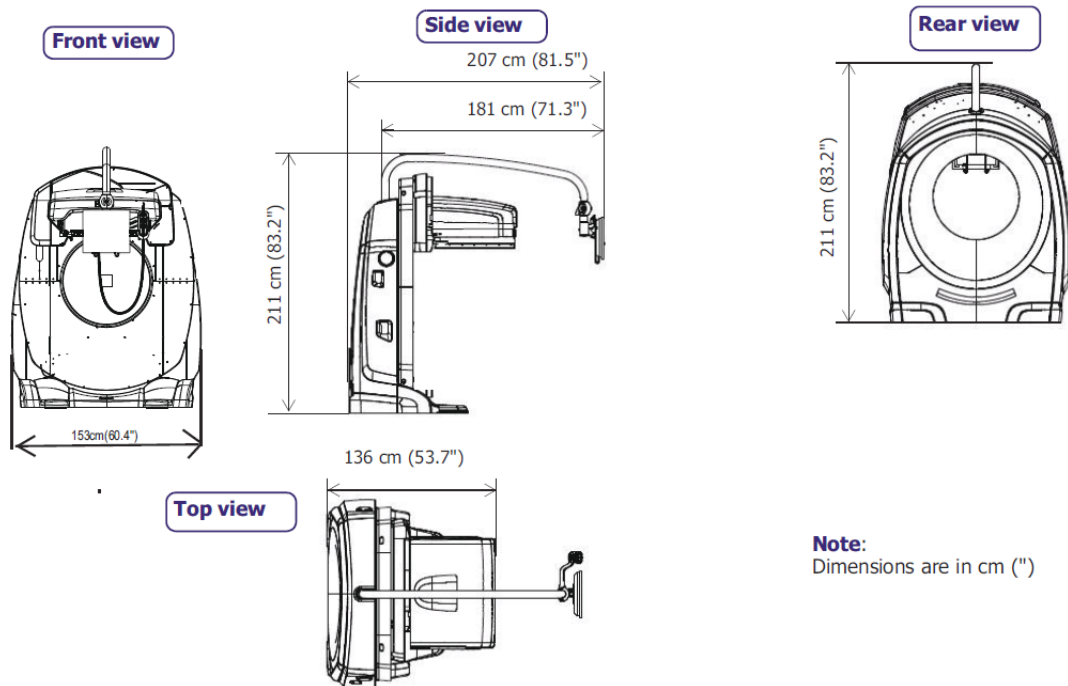

Figure 2-2: B615 Gantry
- Figure 2-2: B615 Gantry, p.2-4